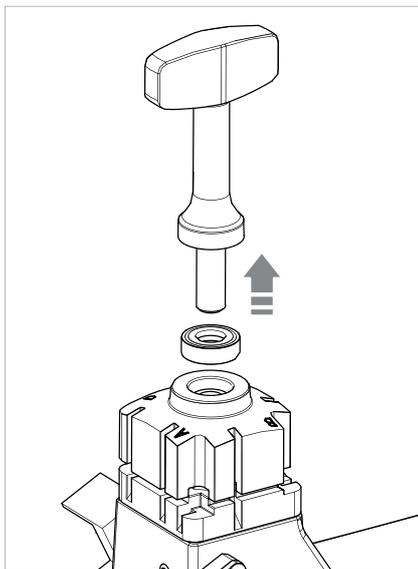

Fig. 39
- 2) Unscrew the knob and remove it with its ball bearing (Fig. 39).